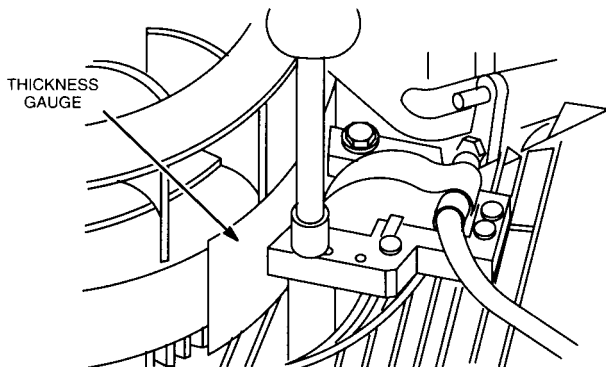

Fig. 14 - Adjust Armature Air Gap
2. Place thickness gauge, .008"-.012" (0.20-.30 mm) between magnet and armature laminations, Fig. 14.